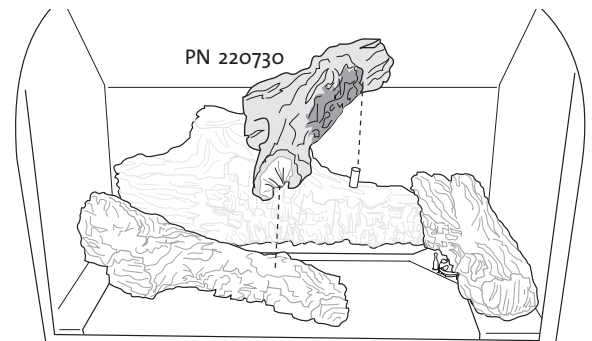

Figure 14. Install middle log
4. Install middle log on the appropriate pegs shown in fig. 14.